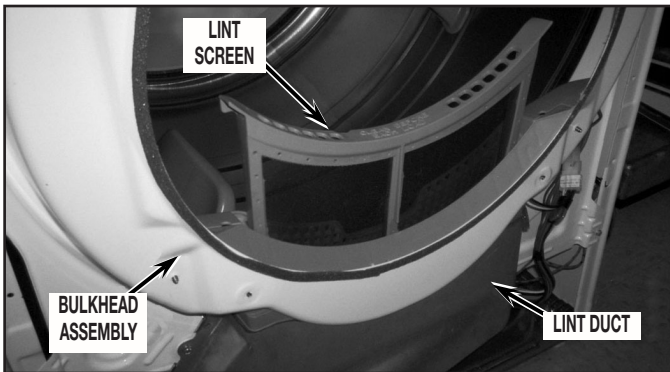

FIGURE 11
11. Remove the bulkhead assembly from dryer by first removing lint screen from dryer lint duct. See Figure 11.